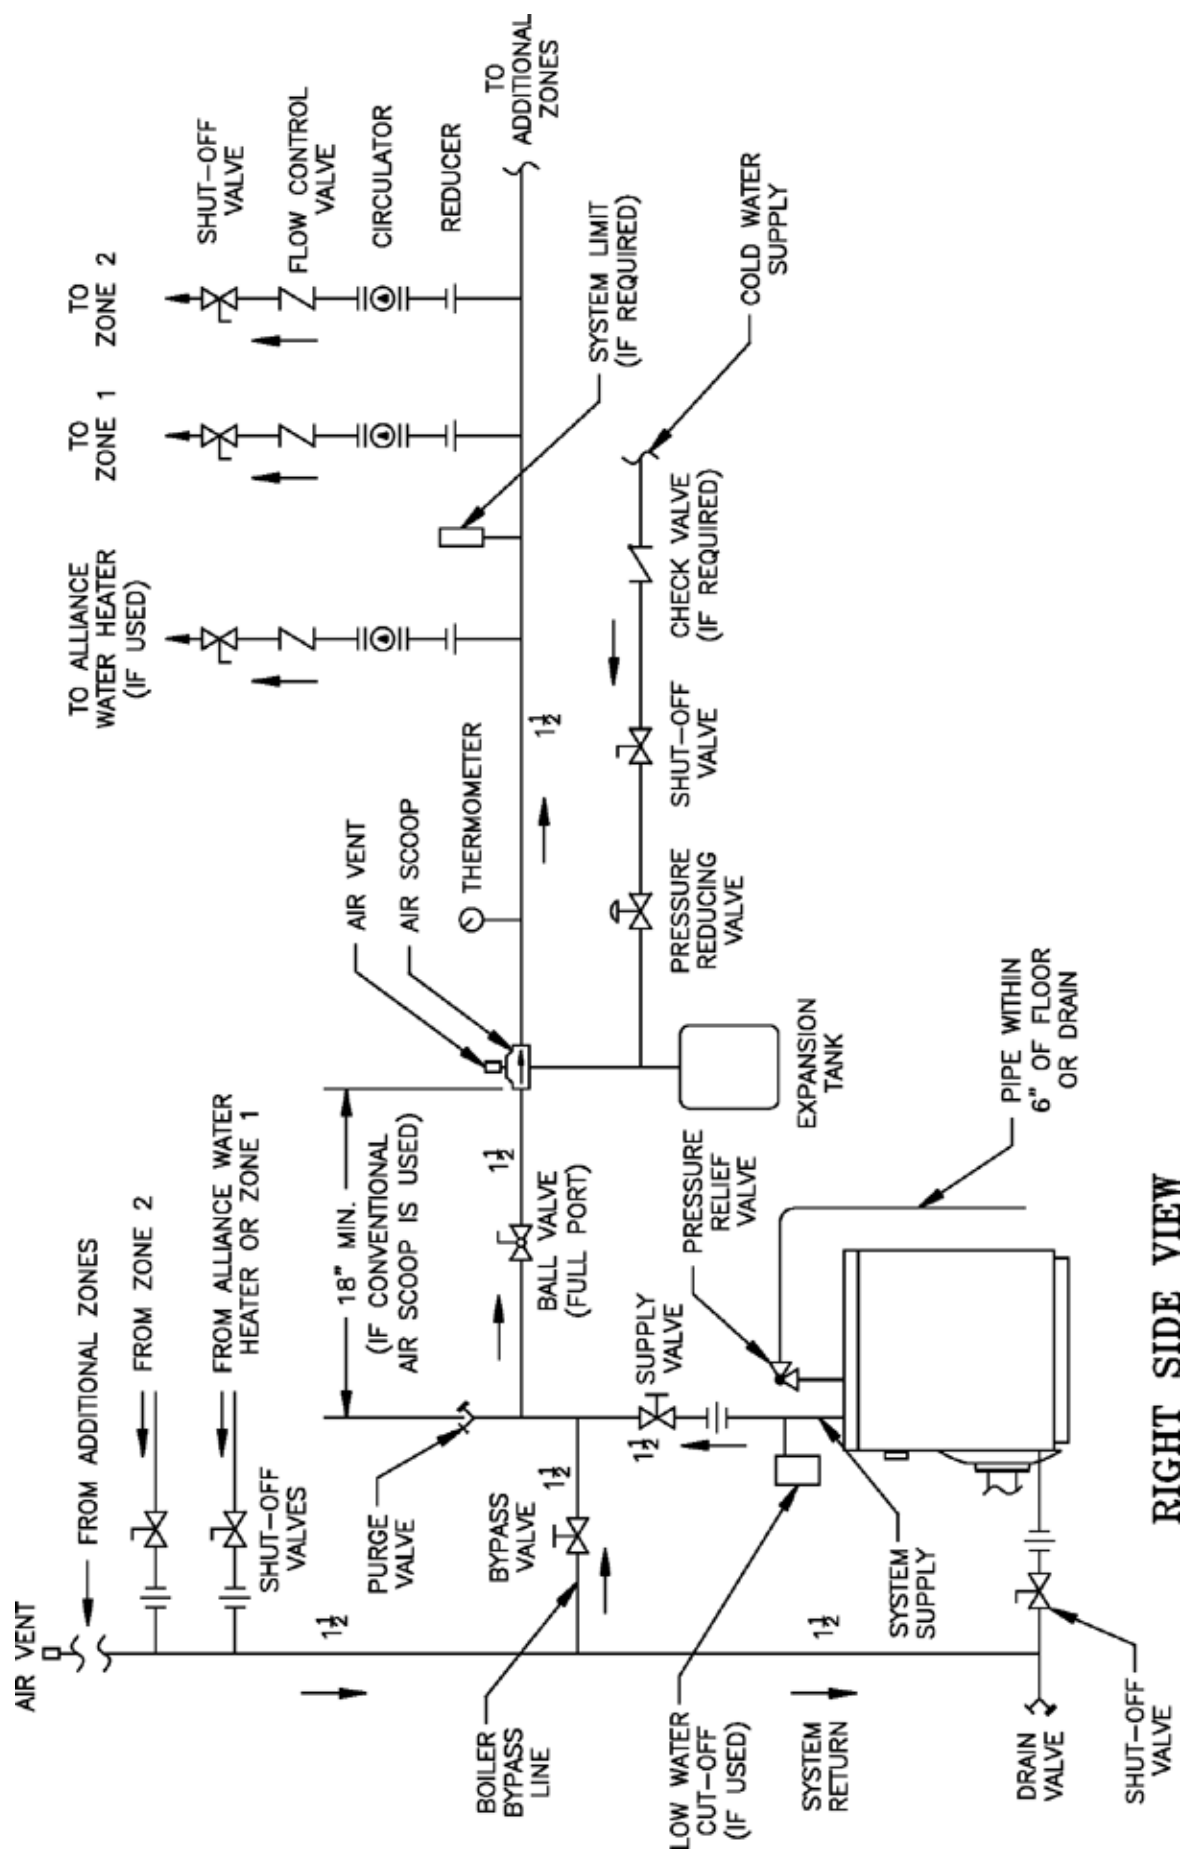

Figure 13A: Recommended Water Piping for Circulator Zoned Heating System
Use 3/4" NPT x 8" nipple and/or 3/4" NPT coupling included in trim bag. Safety or Relief Valve must be installed with spindle in vertical position. Pipe discharge as shown in Figures 13A, 13B, 13C and 14. Installation of the safety or relief valve must be consistent with ANSI/ASME Boiler and Pressure Vessel Code, Section IV.
B. CONNECT SYSTEM SUPPLY AND RETURN PIPING TO BOILER. See Figures 13A, 13B and 13C. Also, consult I=B=R Installation and Piping Guides.
4. Use a boiler bypass if the boiler is to be operated in a system which has a large volume or excessive radiation where low boiler water temperatures may be encountered (i.e. converted gravity circulation system, etc.) The bypass should be the same size as the supply and return lines with valves located in the bypass and return line as illustrated in Figures 13A, 13B and 13C in order to regulate water flow for maintenance of higher boiler water temperature.